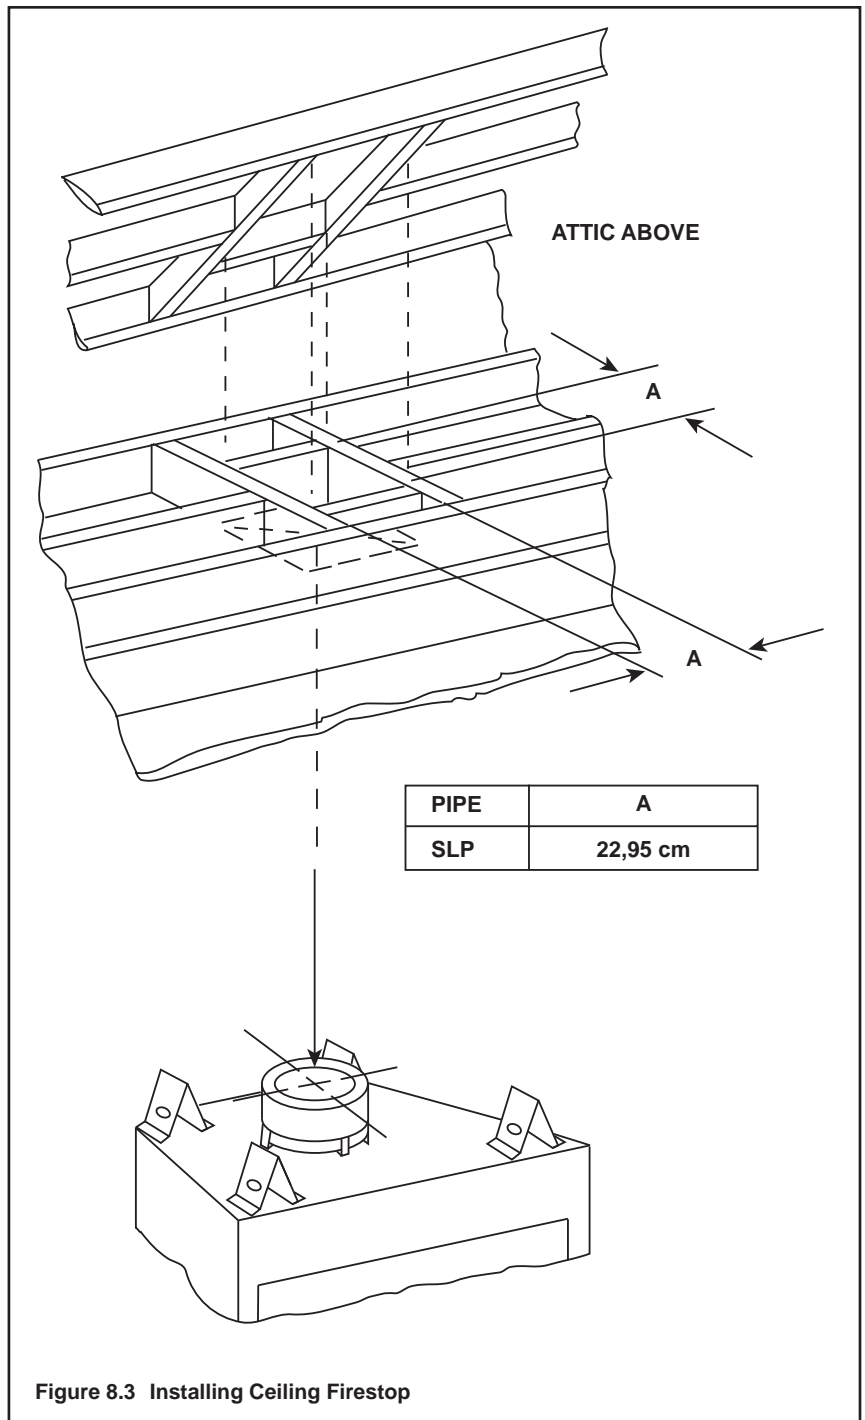

Figure 8.3 Installing Ceiling Firestop
- **SLP pipe only** - Frame opening 22,86 cm x 22,86 cm whenever the vent penetrates a ceiling/floor (see Figure 8.3).